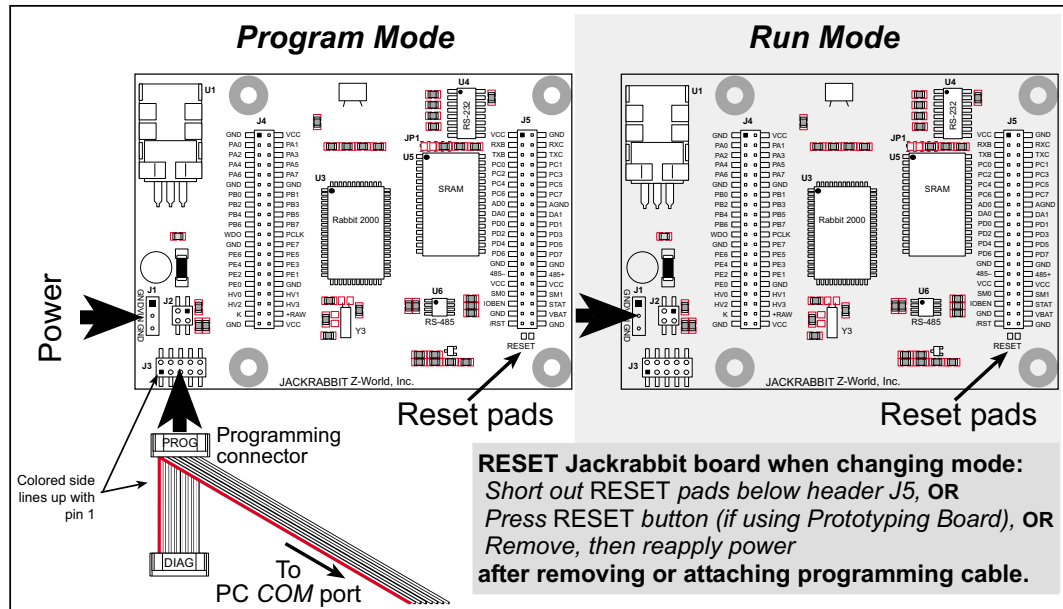

Figure 5. Jackrabbit Program Mode and Run Mode Setup
The Jackrabbit is automatically in Program Mode when the programming cable is attached, and is automatically in Run Mode when no programming cable is attached. See Figure 5.
2. Reset the Jackrabbit board. You may do this as explained in Figure 5. Figure 6 shows the location of the RESET button on the Prototyping Board.